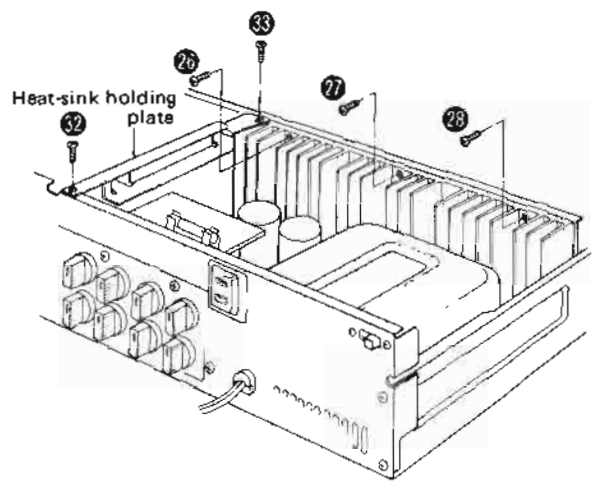
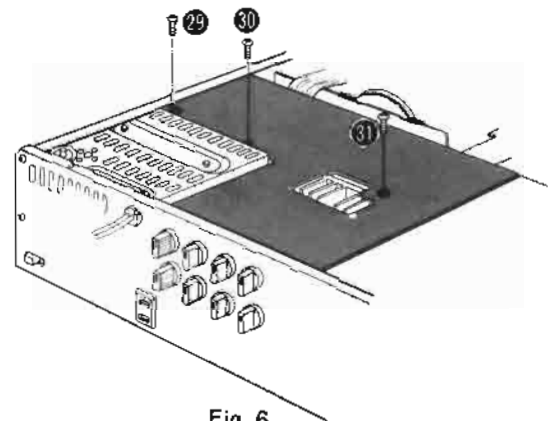

Fig. 5
Fig. 6
3. Remove the 6 setscrews (Fig. 5 : 25 ~ 28 , Fig. 6 : 29 ~ 31) of the heat-sink and the 2 setscrews (Fig. 5 : 32 , 33) of the heat-sink holding plate.